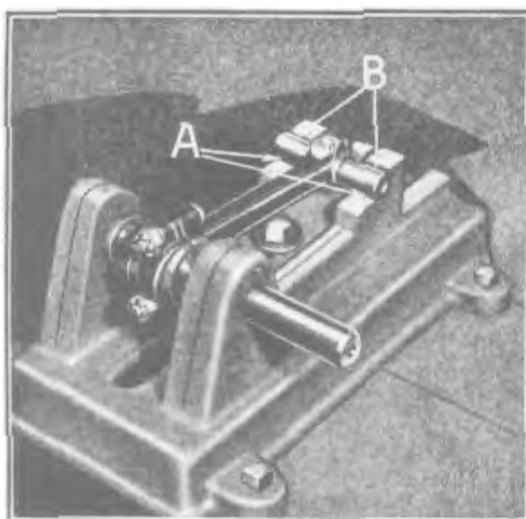

Fig. 234
- 391** The alignment of the rod can be checked by inserting a piston pin through end of rod and placing the rod in an alignment fixture (See Fig. 234). If alignment is O. K., piston pin will fit snugly against fixture at points "A" and "B"; if rod is sprung or twisted there will be a clearance at one of these points.